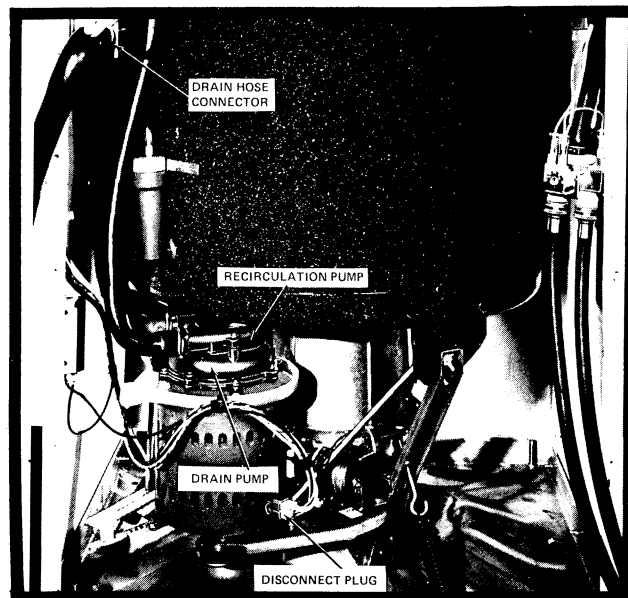

Figure 59
3. Disconnect the motor connector by pressing the sides of the plug (to release lock) and pull out, *Figure 59*.